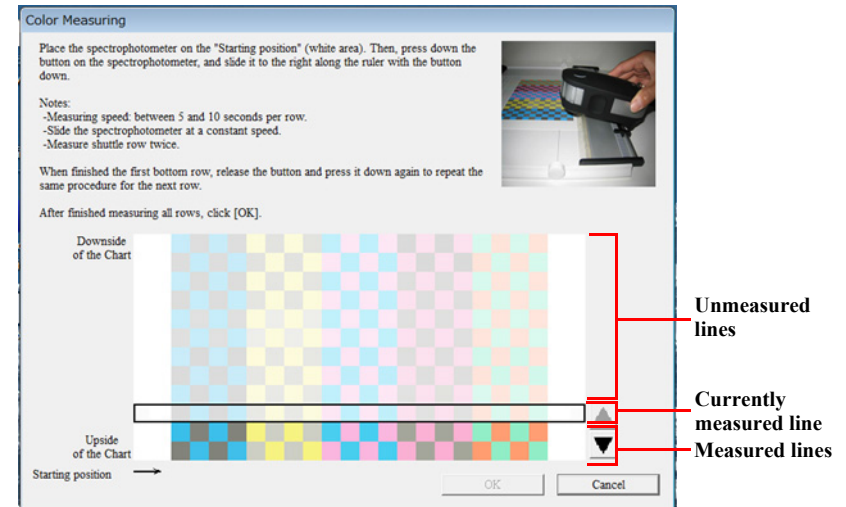

Figure 5-96. Color Measuring Screen
1. Set the calibrator with its measuring part matched with measuring start position (margin) as shown in Figure 5-96.